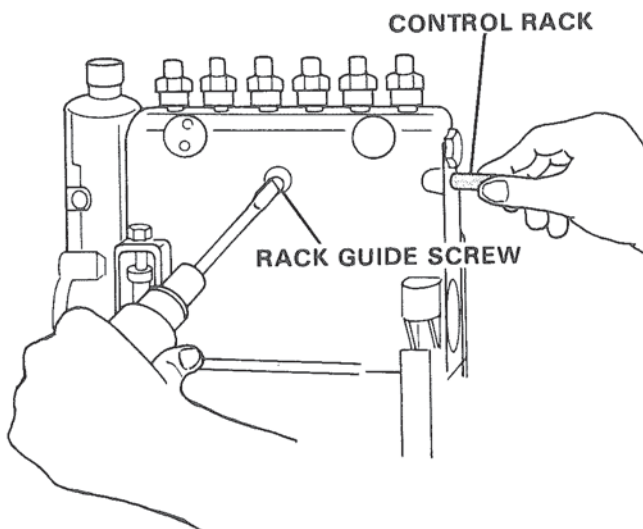

Figure 30. Removing Control Rack.
7. Remove control rack by loosening guide screw and pulling rack out. Figure 30.